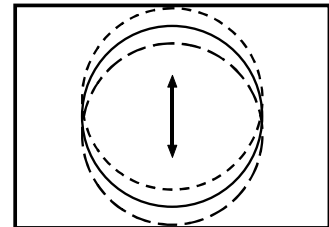

Fig. 8
- c) Adjust the vertical shift to obtain picture centring (Fig. 8).